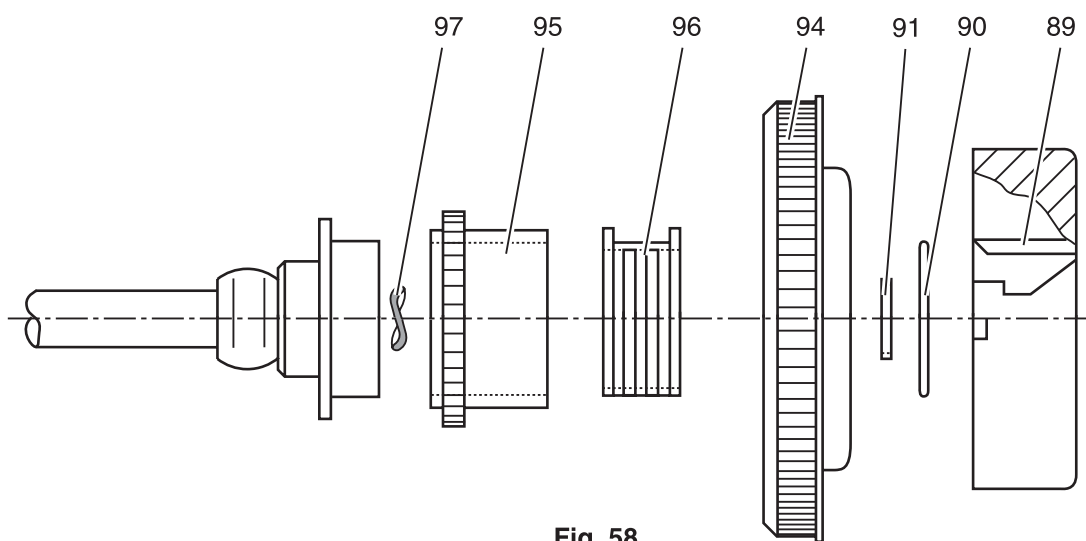

Fig. 58
- Turn the handwheel until the handwheel cutout is facing upward (fig. 58).
- Remove sprocket 94, bushing 95, torsion spring 96 and spring washer 97 (fig. 58).
- Punch tapered notch pin 90, so that its sides have the same distance to the arm shaft (fig. 58).